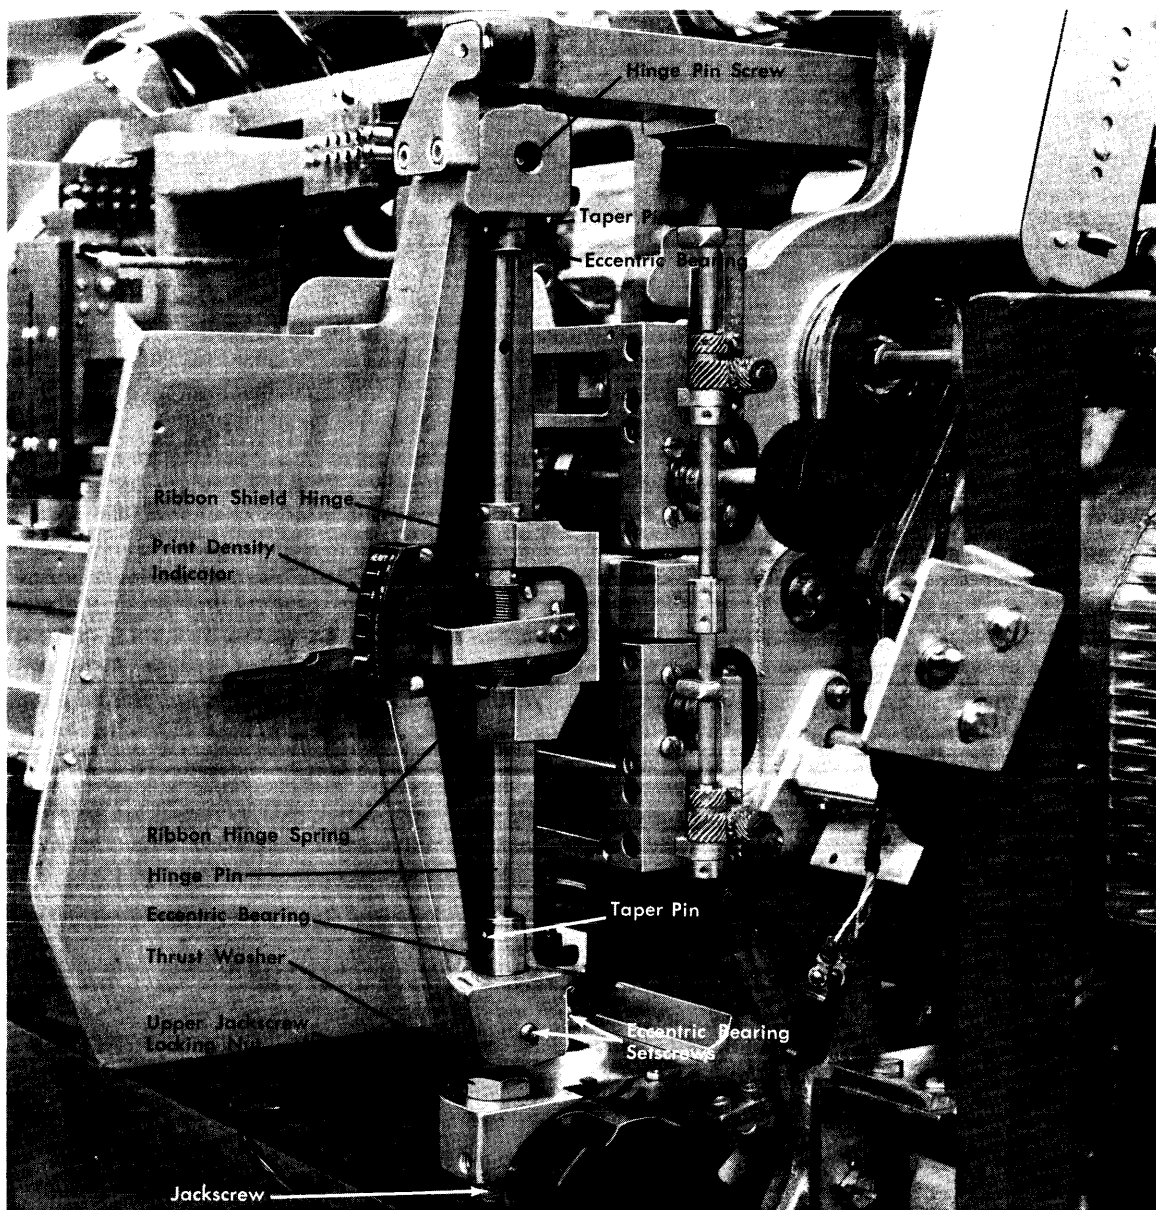

Figure 17. T-Casting (Hinge-Pin End)
2. Remove the print-density indicating block (see Figure 17).
Free the hinge pin (Figure 17).
- b. Loosen the lower jackscrew locknut on the lower right arm of the translator frame. See Figure 17.